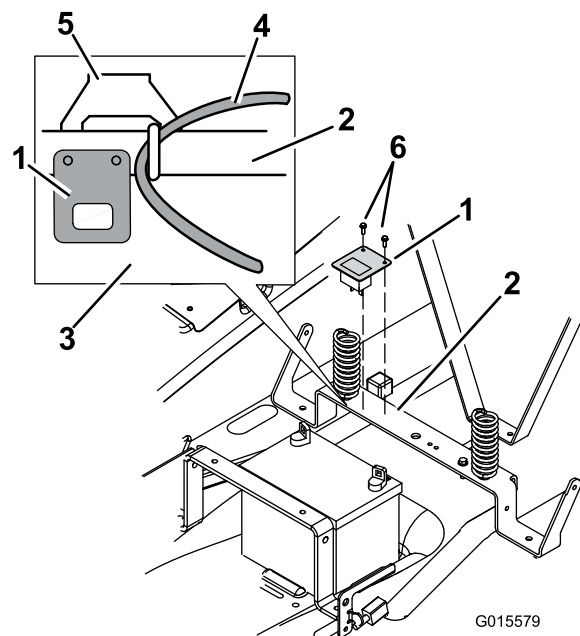

Figure 3
- Use the self tapping screws to install the bracket onto the seat support in the orientation shown in Figure 3.
Install the hour meter assembly to the location described in Figure 3 for any machines with a stamped frame.
- Using the bracket as a template, mark the two spots to be drilled at the approximate location on the seat support shown in Figure 3.
Note: Place the bracket so it does not interfere with the routing of the positive battery cable (Figure 3).